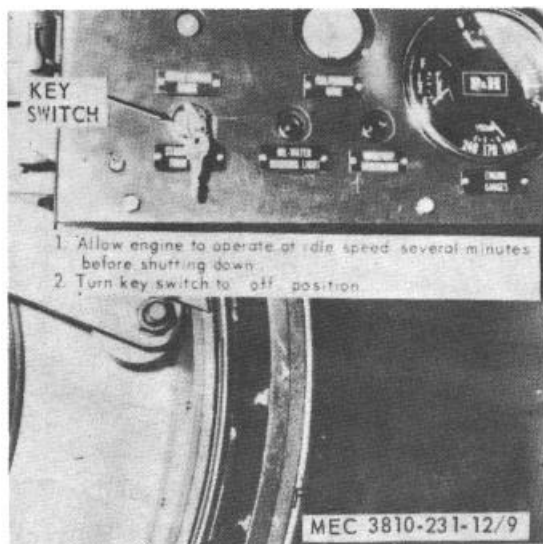

Figure 9. Stopping the engine.
a. Refer to figure 9 and stop the engine.